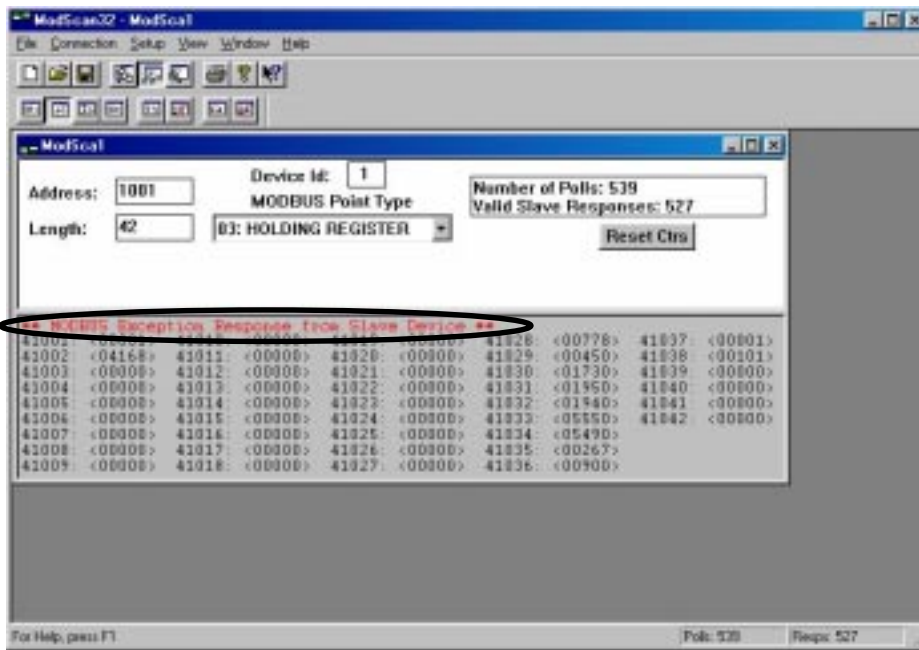

FIGURE 9. ERROR MESSAGE
6. On the main ModScan menu (see Figure 9), change the Length to 42. The “Valid Slave Responses” will stop incrementing and the error message shown in Figure 9 is displayed.